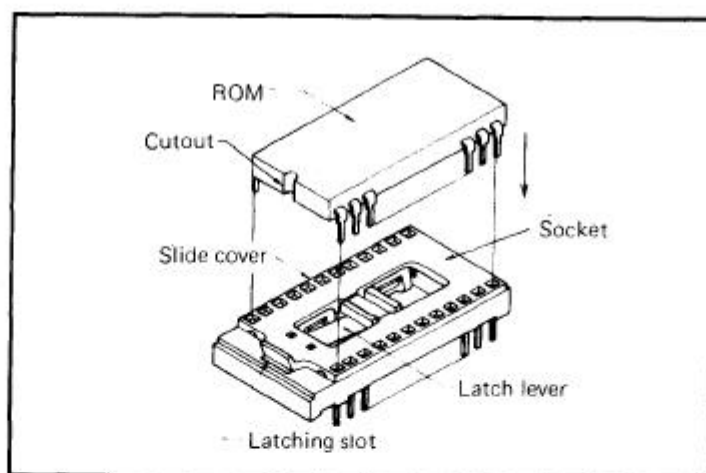

Fig. 6.2
(2) Remove the ROM as follows (refer to Fig. 6.2).